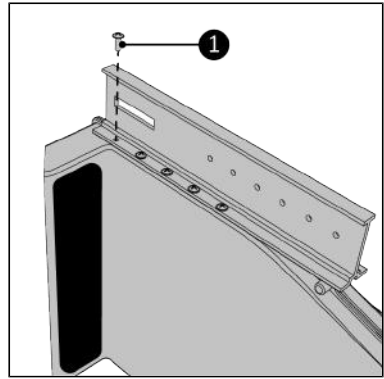

Figure 88.
- Screw the main rail to the Way-out using the ten 3,5 x 10 mm screws (Figure 88, pos. 1). Make sure all screw holes match up.